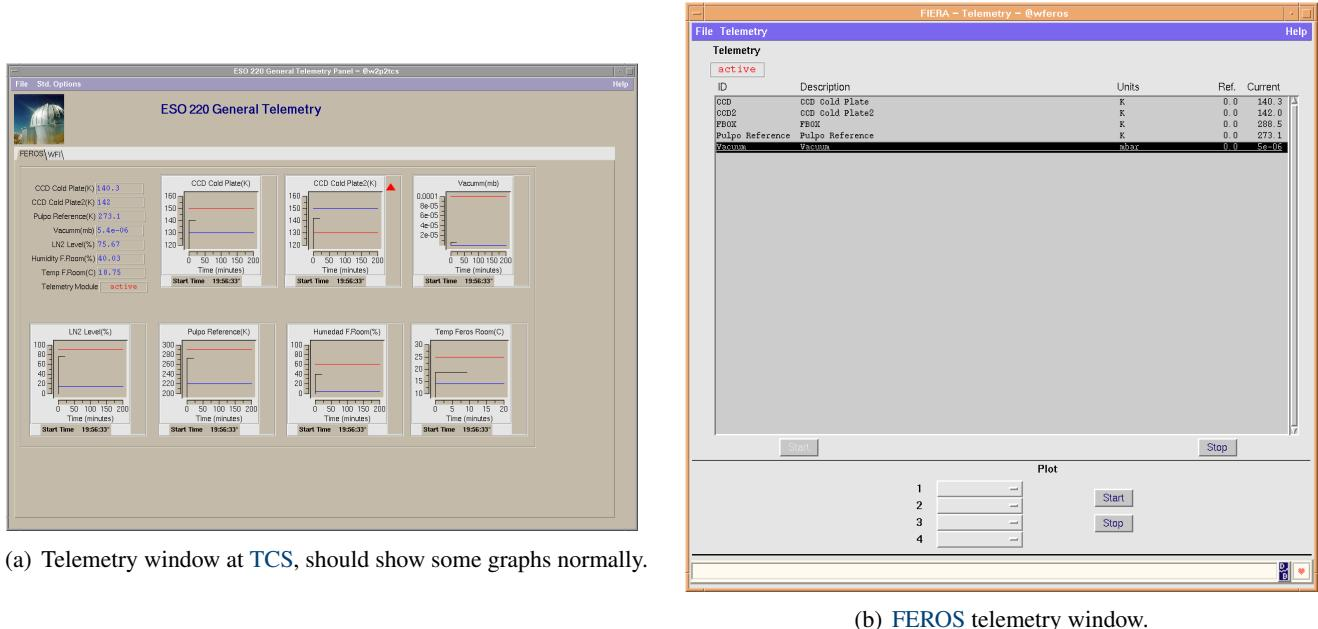

Figure 9.4: Telemetry window.
- There is a problem with the FEROS telemetry at TCS (window should show some graphs, Fig. 9.4(a)), run Procedure 9.16